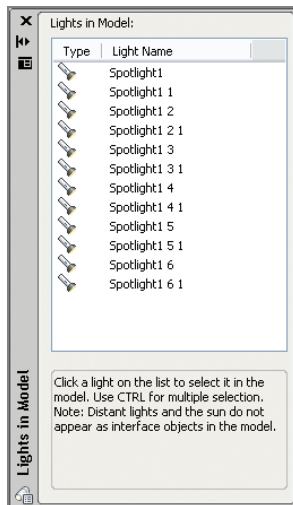

FIGURE 18.11
14. Click the Lights panel menu (a small icon in the lower-right corner of the Lights panel) to open the Lights In Model palette (see Figure 18.11). Select the first spotlight in the list, hold Shift, and select the last spotlight in the list to select them all.